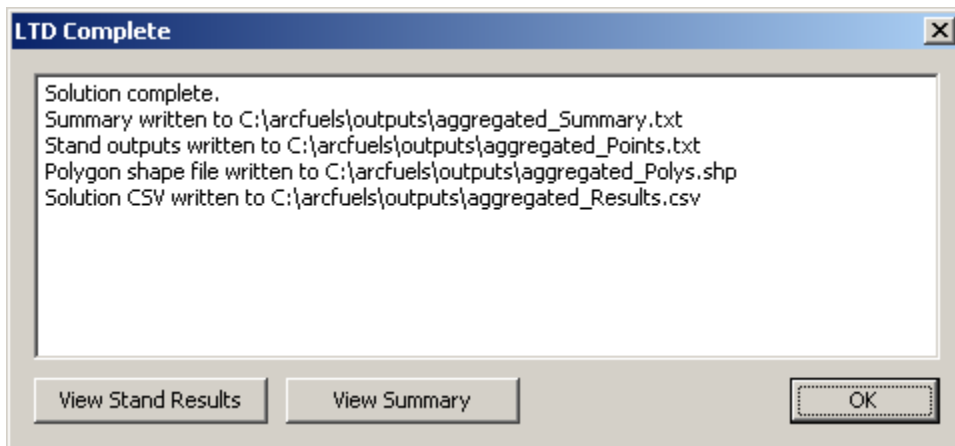

Figure 5-9—LTD Complete window.
- j) Next, the **LTD Complete** window will open (fig. 5-9). This window lists the outputs with their name and path shown, and allows you to open select outputs without having to navigate to the folder where they are saved.